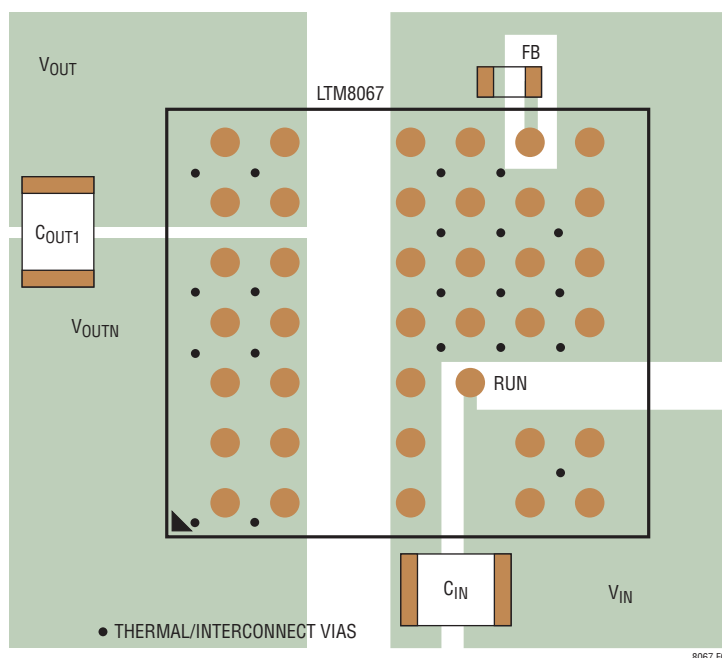

Figure 1. Layout Showing Suggested External Components, Planes and Thermal Vias
Most of the headaches associated with PCB layout have been alleviated or even eliminated by the high level of integration of the LTM8067. The LTM8067 is nevertheless a switching power supply, and care must be taken to minimize electrical noise to ensure proper operation. Even with the high level of integration, you may fail to achieve specified operation with a haphazard or poor layout. See Figure 1 for a suggested layout. Ensure that the grounding and heat sinking are acceptable.
6. Use vias to connect the GND copper area to the board's internal ground planes. Liberally distribute these GND vias to provide both a good ground connection and thermal path to the internal planes of the printed circuit board. Pay attention to the location and density of the thermal vias in Figure 1. The LTM8067 can benefit from the heat sinking afforded by vias that connect to internal GND planes at these locations, due to their proximity to internal power handling components. The optimum number of thermal vias depends upon the printed circuit board design. For example, a board might use very small via holes. It should employ more thermal vias than a board that uses larger holes.